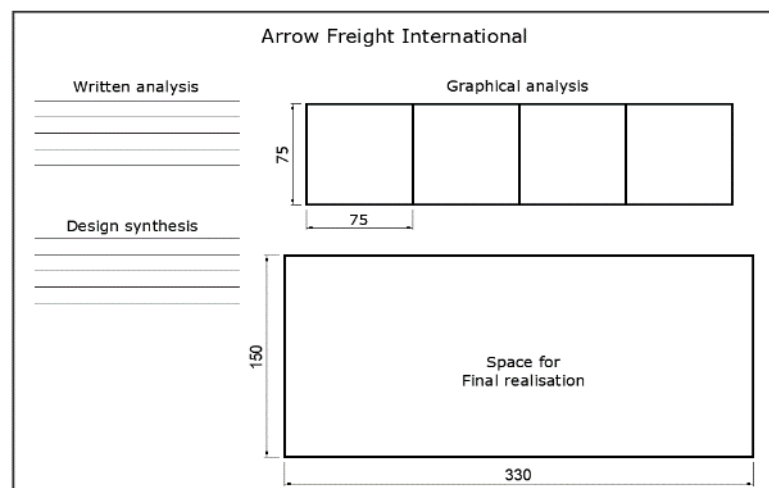

Figure 3b
You need to present your work broken down according to the following steps and as shown in Figure 3b.
Use colour and shading to produce your final realisation in a rectangle as shown in Figure 3b. (14)
- Details of the page layout and the design space are given in Figure 3b below.